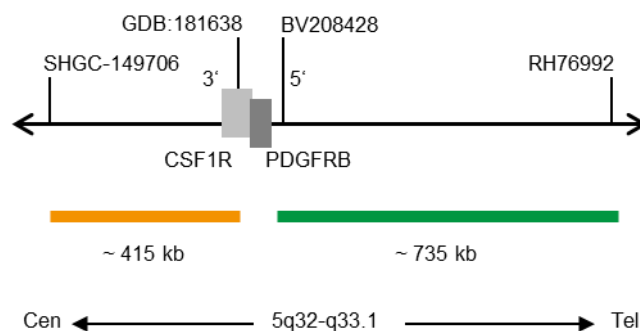

Fig. 1: SPEC PDGFRB Probe map (not to scale)
- ZyGreen (excitation 503 nm/emission 528 nm) labeled polynucleotides (~10.0 ng/μl), which target sequences mapping in 5q32-q33.1* (chr5:149,548,518-150,285,722) distal to the PDGFRB breakpoint region (see Fig. 1).
- ZyOrange (excitation 547 nm/emission 572 nm) labeled polynucleotides (~4.5 ng/μl), which target sequences mapping in 5q32* (chr5:149,058,515-149,471,369) proximal to the PDGFRB breakpoint region (see Fig. 1).